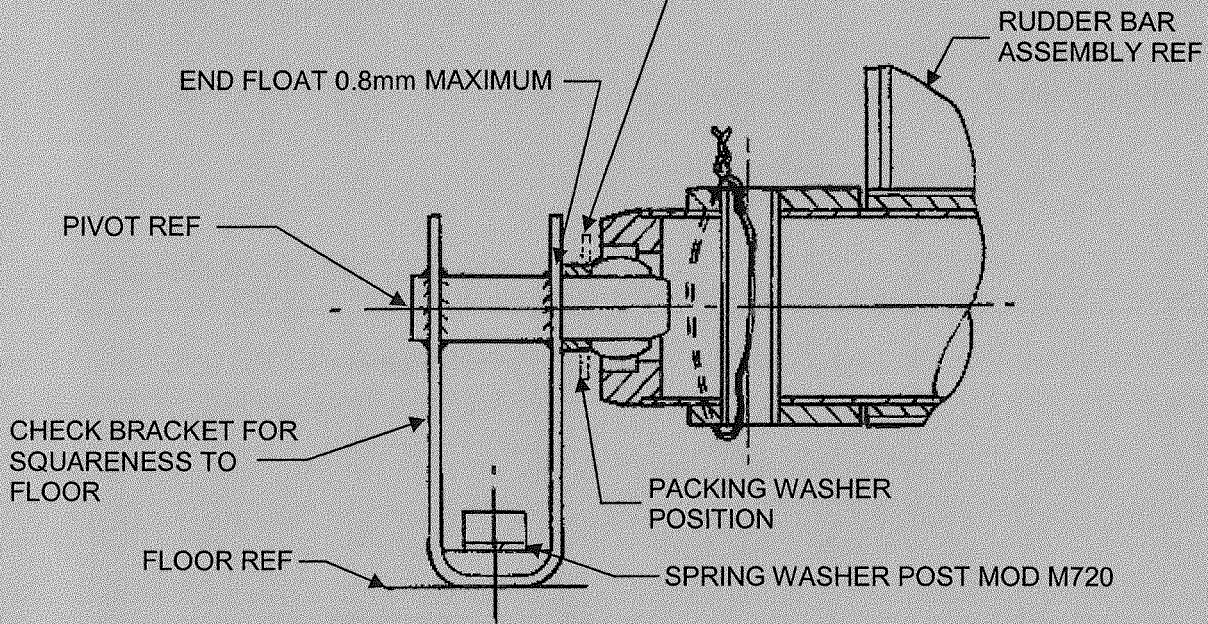

FIGURE 2
3. Check forward, aft and lateral play in pedal pads and their sliders; ensure play is no greater than 4.8mm when pedals locked in any of the adjustment positions. If greater than 4.8mm then refurbish pedal assemblies, refer T67M260 Maintenance Manual Paragraph 5.6.5.1 (3). Consult SACL if required.
4. Check rudder pedal bar end float is no greater than 0.8mm. If it is greater than 0.8mm then rectify end float IAW paragraph 9. Refer Figure 2.
7. Should Rudder bar support bracket be damaged, replace with a new item. Ensure brackets are secured with a torque of 58lbf in (6.5Nm). Ensure spring washers are fitted; Mod M720 "Introduction of Spring Washers to Rudder Pedal Lay-shaft Mounting Bracket Screws" refers. See Figure 2.
9. Referring to Figure 2 ensure at each rudder bar pivot position that there is one spacer T67M-45-507 OR one off washer 126-23-748 and up to a maximum of two off washers 126-23-749, i.e. 3 washers maximum.